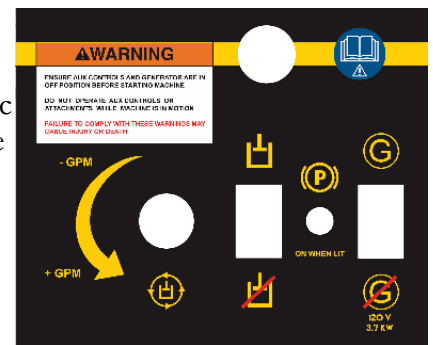

Fig 17
Caution: Never operate an electric tool while driving machine. No operator should be on the machine during the time of electric tool use. Doing so can result in serious injury or death. After the generator is turned on, the park brake is automatically set. Turn on the generator by using the switch on the control panel marked with "G" symbol. (Fig 17) After setting park brake you can begin to use the generator. You can use up to 3.7 KW. Please see generator owner's manual for more information.
1. Connect hoses with engine off and adjust the Aux Flow Knob to its lowest setting by rotating clockwise. (Fig 17)
2. Start the engine and turn on the Aux Flow circuit by using the switch on the control panel with the hydraulic symbol, next control the generator switch and aux flow knob. (Fig 17) At this time the park brake is automatically set.
6. While no one is handling the hydraulic tool flip the Aux Tool switch to off (Fig 17) and then turn off the machine. Try to activate the tool to reduce built up pressure and remove the hoses. Turn on the auxiliary tool circuit by using the switch on the control panel. (Fig 17)